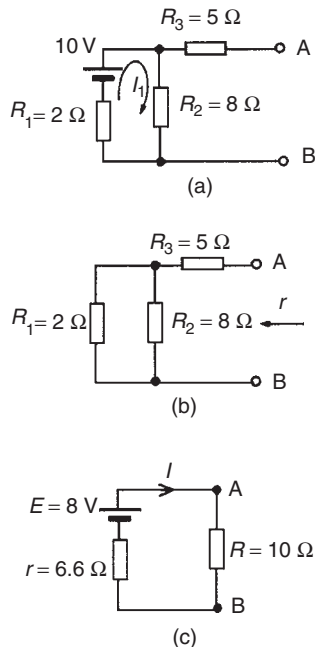

Figure 13.38
- (i) The $10\ \Omega$ resistance is removed from the circuit as shown in Fig. 13.38(a)
- (iii) Removing the source of e.m.f. gives the circuit of Fig. 13.38(b) Resistance,
- (iv) The equivalent Thévenin's circuit is shown in Fig. 13.38(c)